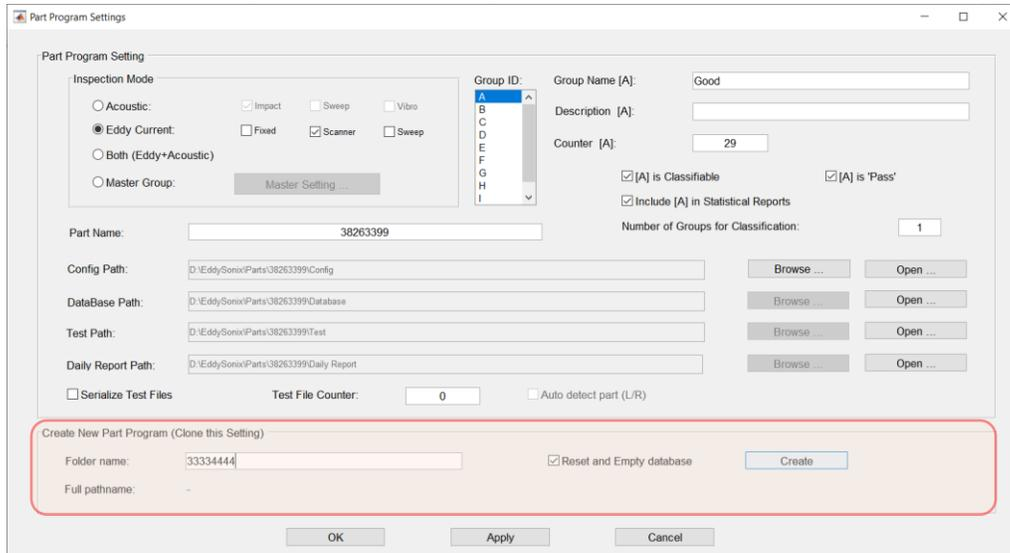

Figure 9. The Part Definition Menu, Showcasing the Pane for Creating a New Part Setup.
1. Access the **Part Definition** menu (Ctrl+G) and go to the **Create New Part Setup (Clone this Setting)** pane. Input the desired Folder name in the edit box, but remember this cannot be altered later. Ensure to select the **Reset and Empty database** option (Figure 9).